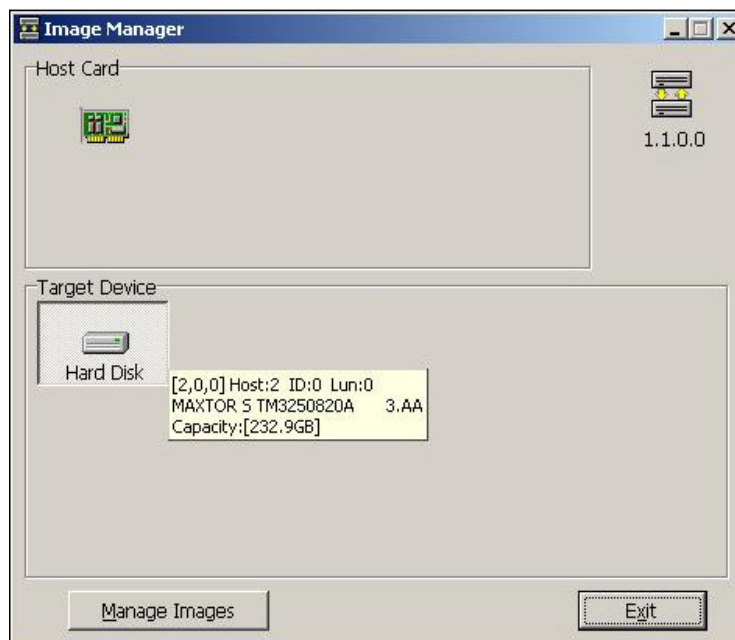
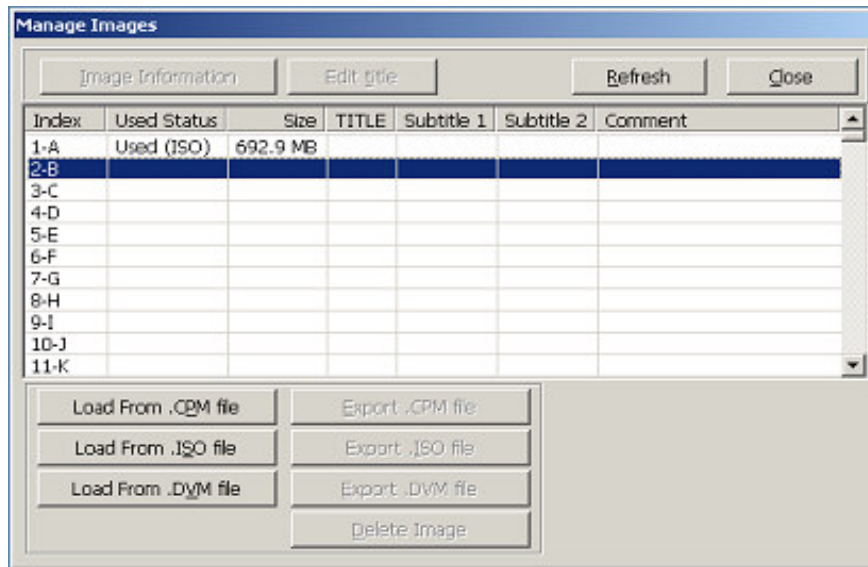

Figure 1
Figure 2
2. In Fig. 1, move the cursor over the HDD to see details such as capacity. Now click on Image Manager to enter Fig. 2.
3. In Fig.2, select a partition in the HDD such as B for storing image files loaded from the system HDD (Load From CPM/ISO/DVM file). Choose a preferred file format such as .CPM, .ISO or .DVM. (About CPM/ISO/DVM file format please create it by ACARD Ha! DVD Burner)